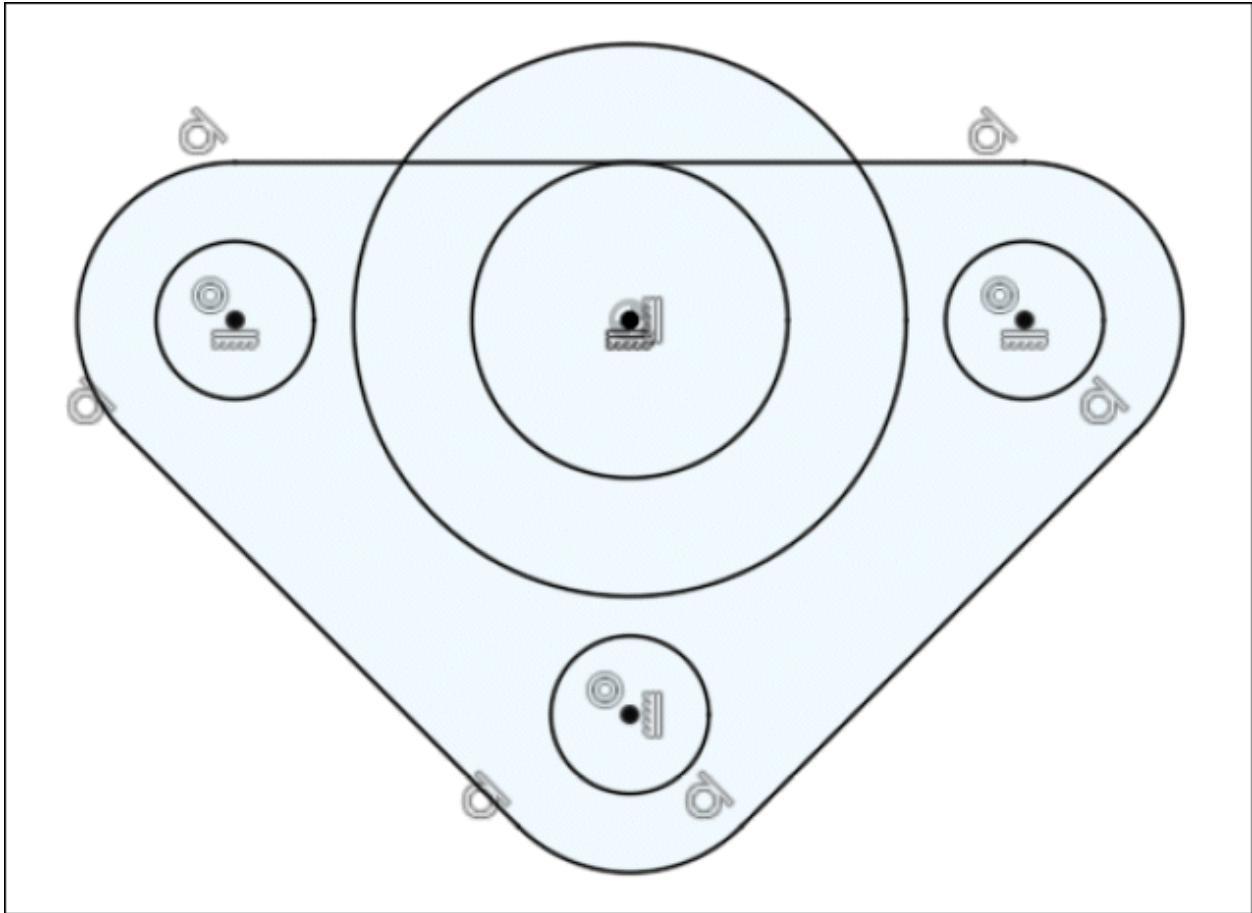

Figure-39. Creating lines joining the arcs
- Select **Line** tool from **CREATE** drop-down and create three lines joining the arcs; refer to Figure-39. After creating the lines, apply **Tangent** constraint to all the lines.